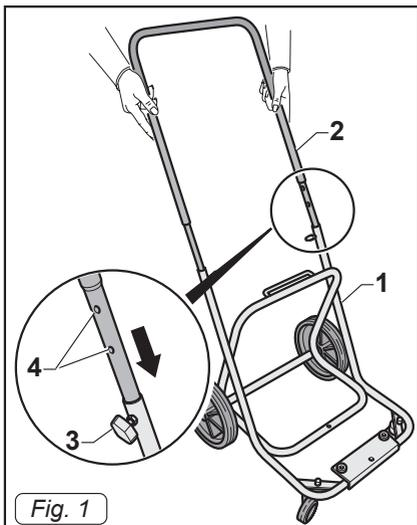

Fig. 1
- Place the trolley on the ground (1 Fig. 1).
- Insert the handle (2 Fig. 1) in the trolley.
- It is possible to adjust the handle's height, positioning it and tightening the fixing button (3 Fig. 1) in one of the two positions (4 Fig.1).